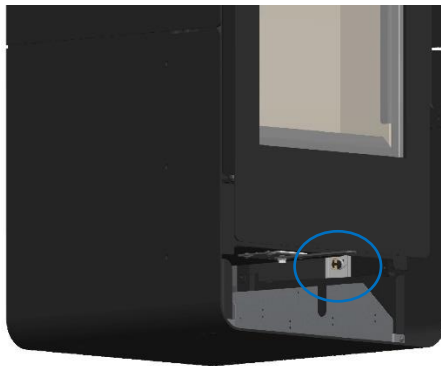

Figure 40 – Fixing the ventilation kit thermostat
* Fix the ventilation kit thermostat (figure 40);